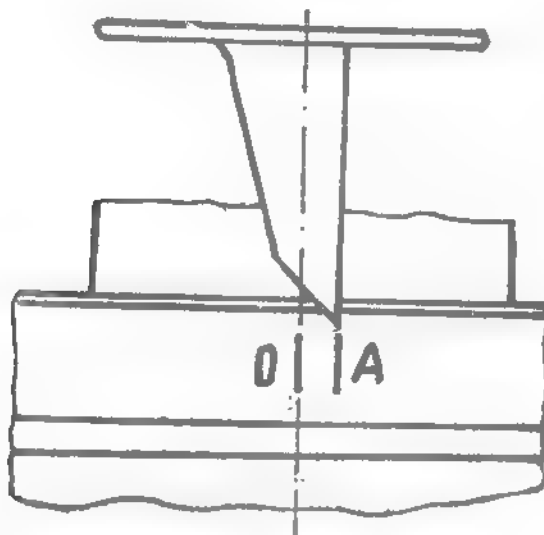

Fig. 2.21. ADJUSTING IGNITION TIMING BY ARO L-25 ENGINE
- In case that the indicated value can not be found, loosen flange for adjusting angular position of ignition distributor and rotate distributor, observing in the same time, by means of a stroboscope, the mark "A" on damper of crankshaft pulley (see fig. 2.21) until it falls in line with timing pointer.